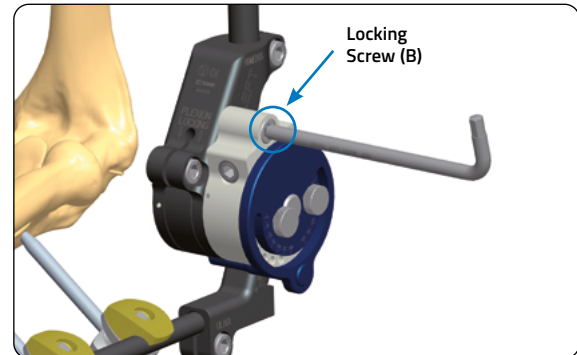

Fig. 2
1) The elbow motion unit allows either a free movement of the elbow joint or a controlled movement towards flexion and extension by turning the worm-screw clockwise or counter-clockwise with the 5mm Allen Wrench (**Fig. 2**).